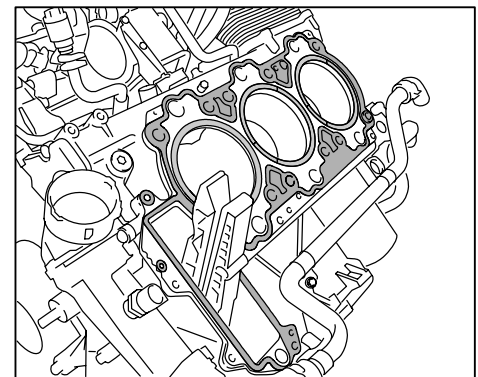

Figure 4
- 2.1.2 Fit new cylinder-head gasket (⇒ 997.104.201.02) on the crankcase while ensuring that the upper and lower sides are positioned correctly ⇒ *Figure 4*.